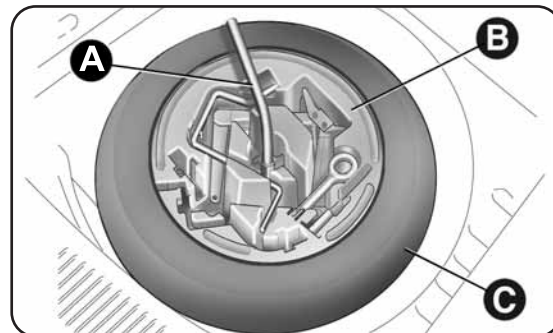

fig. 114
- using the wrench A - fig. 114 positioned in the tool box, loosen the locking device, take the tool box B and place it close to the wheel to be replaced, then take the space/saver wheel C;